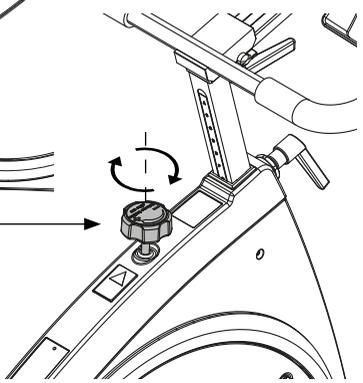

Figure 9
- 2) Put maximum resistance on the brake, so the pedalarm is unable to rotate, see figure 9